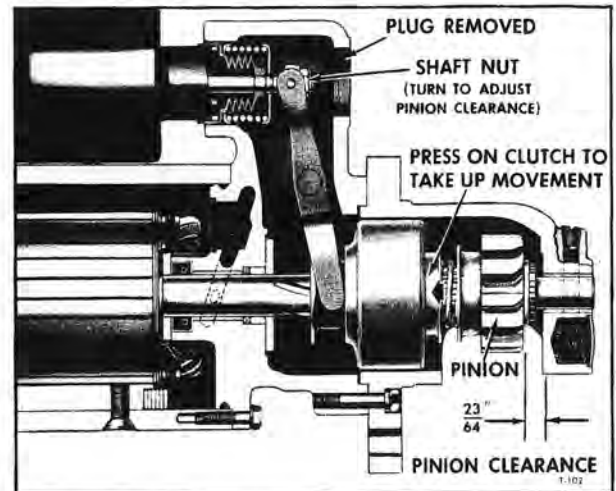

Figure 11—Pinion Clearance Check and Adjustment
2. With solenoid energized and drive clutch shifted toward the nose housing, push the pinion back toward armature to take up slack, then check clearance between the pinion and nose housing (fig. 11). Adjust nut on solenoid plunger rod as necessary to obtain the proper clearance of  $\frac{23}{64}$  inch. After correct adjustment is obtained, install access plug and gasket in shift lever housing.